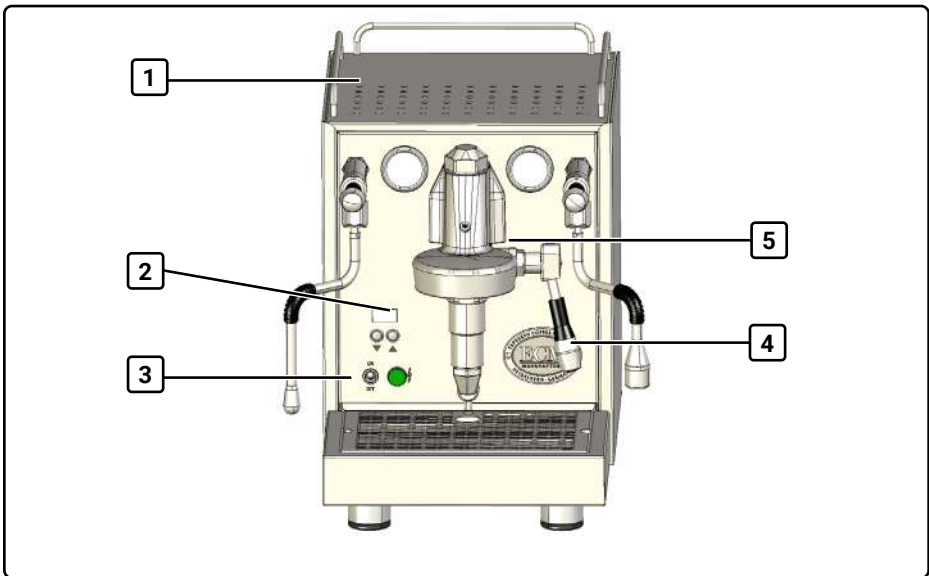

Fig. 8 Front view
1. Remove the cup tray (1, Fig. 8) and the water tank and clean them thoroughly (see Chapter 11.5, "Cleaning the water tank").
5. Switch on the machine using the on/off toggle switch (3, Fig. 8).
6. Place a large receptacle under the brew group (5, Fig. 8). The opening of the receptacle should be at least as big as the brew group.
7. Move the brew lever (4, Fig. 8) into the drawing position (see Chapter 5.2.2, "Operating levers") and draw approx. 500 ml via the brew group.
2. Switch on the machine using the on/off toggle switch (3, Fig. 8).
3. Place a large receptacle under the brew group (5, Fig. 8). The opening of the receptacle should be at least as big as the brew group.
4. Move the brew lever (4, Fig. 8) into the drawing position (see Chapter 5.2.2, "Operating levers") and draw approx. 500 ml via the brew group.